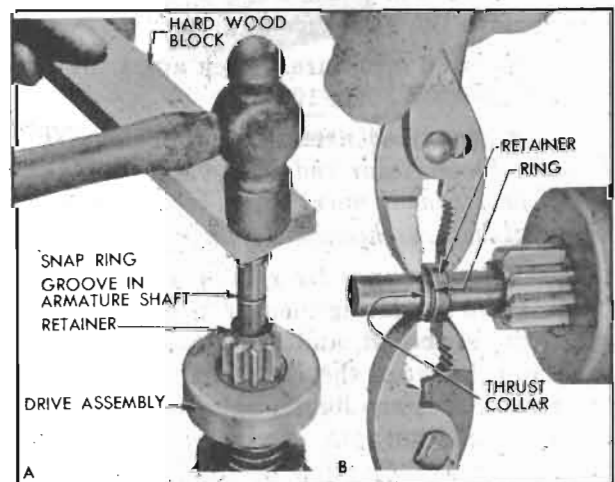

Figure 10-35—Pinion Stop Retainer and Snap Ring Installation
5. Place a new snap ring on drive end of shaft and hold it in place with a hard wood block. Strike block with hammer to force snap ring over end of shaft, then slide the ring down into groove in shaft. See figure 10-35, view A.
6. Place thrust collar on shaft with shoulder next to snap ring, and move the retainer into contact with ring. Using pliers on opposite sides of shaft squeeze retainer and thrust collar together until snap ring is forced into the retainer. See figure 10-35, view B.